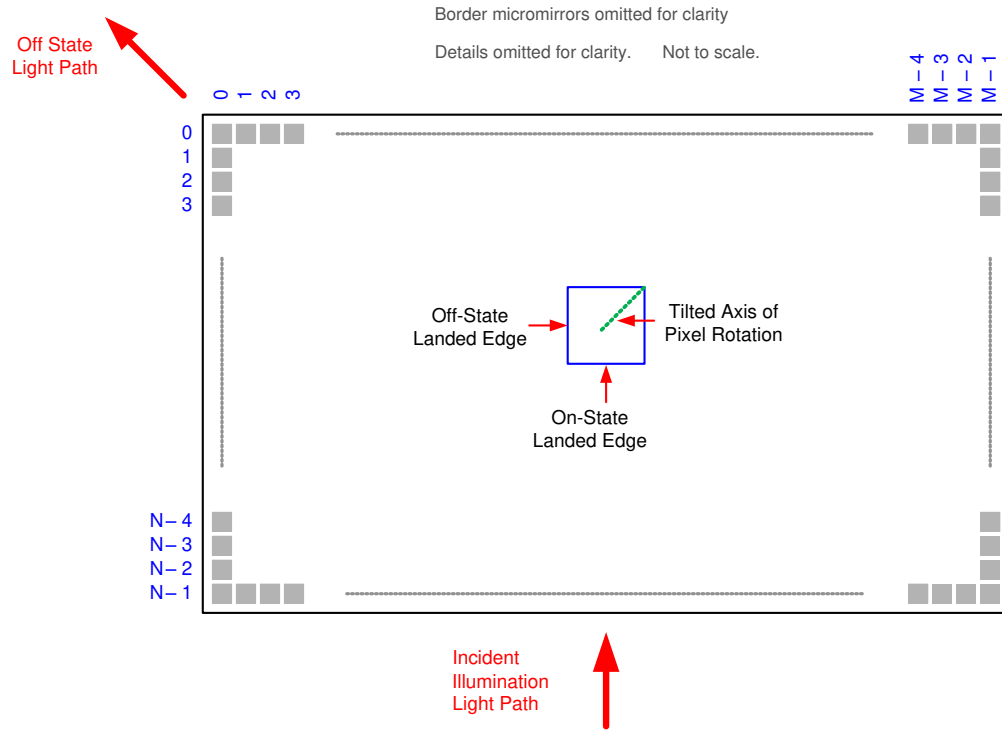

Figure 6-15. Micromirror Landed Orientation and Tilt
- (1) Measured relative to the plane formed by the overall micromirror array.
- (2) Additional variation exists between the micromirror array and the package datums.
- (3) Represents the landed tilt angle variation relative to the nominal landed tilt angle.
- (4) Represents the variation that can occur between any two individual micromirrors, located on the same device or located on different devices.
- (5) For some applications, it is critical to account for the micromirror tilt angle variation in the overall system optical design. With some system optical designs, the micromirror tilt angle variation within a device may result in perceivable non-uniformities in the light field reflected from the micromirror array. With some system optical designs, the micromirror tilt angle variation between devices may result in colorimetry variations, system efficiency variations or system contrast variations.
- (6) When the micromirror array is landed (not parked), the tilt direction of each individual micromirror is dictated by the binary contents of the CMOS memory cell associated with each individual micromirror. A binary value of 1 results in a micromirror landing in the ON State direction. A binary value of 0 results in a micromirror landing in the OFF State direction. See Figure 6-15.
- (7) Micromirror tilt direction is measured as in a typical polar coordinate system: Measuring counter-clockwise from a 0° degree reference which is aligned with the +X Cartesian axis.
- (8) The time required for a micromirror to nominally transition from one landed state to the opposite landed state.
- (9) The minimum time between successive transitions of a micromirror.
- (10) Conditions of Acceptance: All DMD image quality returns will be evaluated using the following projected image test conditions: